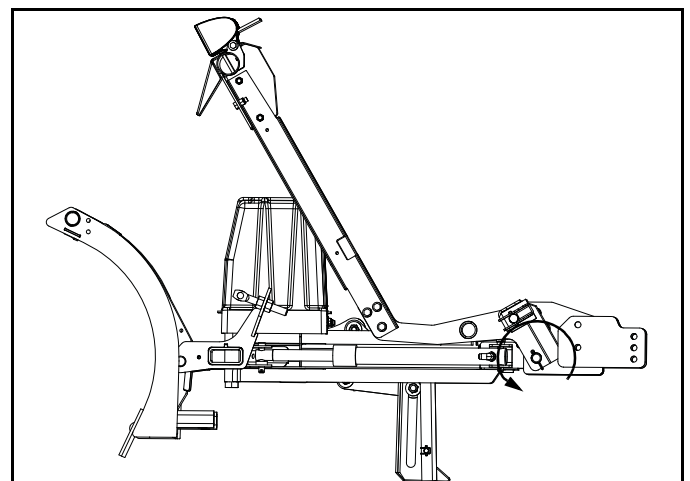

Figure 1-23
5. Rotate jack stand down and raise A-frame by pressing the up button. (See Figure 1-23)